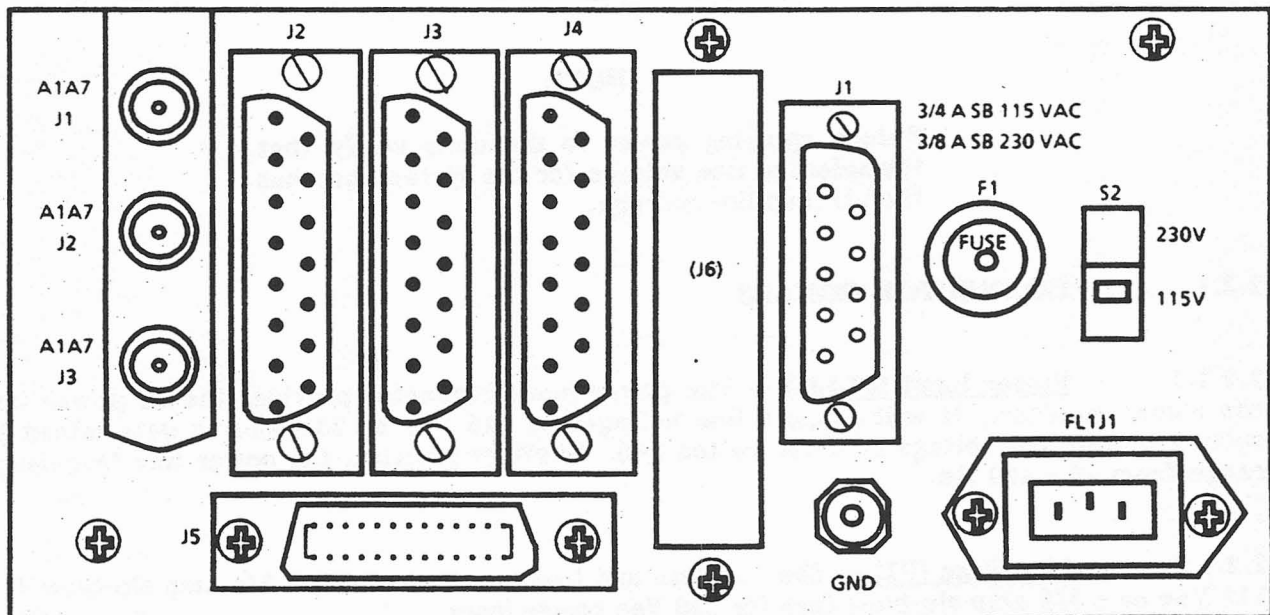

Figure 2-1. WJ-9205 Signal Monitor, Rear Panel Connectors
Access to the rear panel is recommended so that input and output connections can be changed conveniently, if desired. The rear panel connections are described in Table 2-1. As a reference for the rear panel connectors, see Figure 2-1.
2.2.1.4 **Receiver #1 Interface Connector (J2)** — This 15-pin D-type connector is used to connect Receiver #1 to the Signal Monitor when Receiver #1 is a WJ-8615D Receiver whose frequency range has been extended to 500 MHz. Figure 2-1 depicts the pin configuration. As shown, pin 1 is the bottom pin of the left column and pin 9 is the bottom pin of the right column. Pin 6 accepts a HIGH or LOW TTL signal. Pin 2 is ground. See paragraph 1.4.
2.2.1.5 **Receiver #2 Interface Connector (J3)** — This 15-pin D-type connector is used to connect Receiver #2 to the Signal Monitor when Receiver #2 is a WJ-8615D Receiver whose frequency range has been extended to 500 MHz. Figure 2-1 depicts the pin configuration. As shown, pin 1 is the bottom pin of the left column and pin 9 is the bottom pin of the right column. Pin 6 accepts a HIGH or LOW TTL signal. Pin 2 is ground. See paragraph 1.4.
2.2.1.6 **Receiver #3 Interface Connector (J4)** — This 15-pin D-type connector is used to connect Receiver #3 to the Signal Monitor when Receiver #3 is a WJ-8615D Receiver whose frequency range has been extended to 500 MHz. Figure 2-1 depicts the pin configuration. As shown, pin 1 is the bottom pin of the left column and pin 9 is the bottom pin of the right column. Pin 6 accepts a HIGH or LOW TTL signal. Pin 2 is ground. See paragraph 1.4.